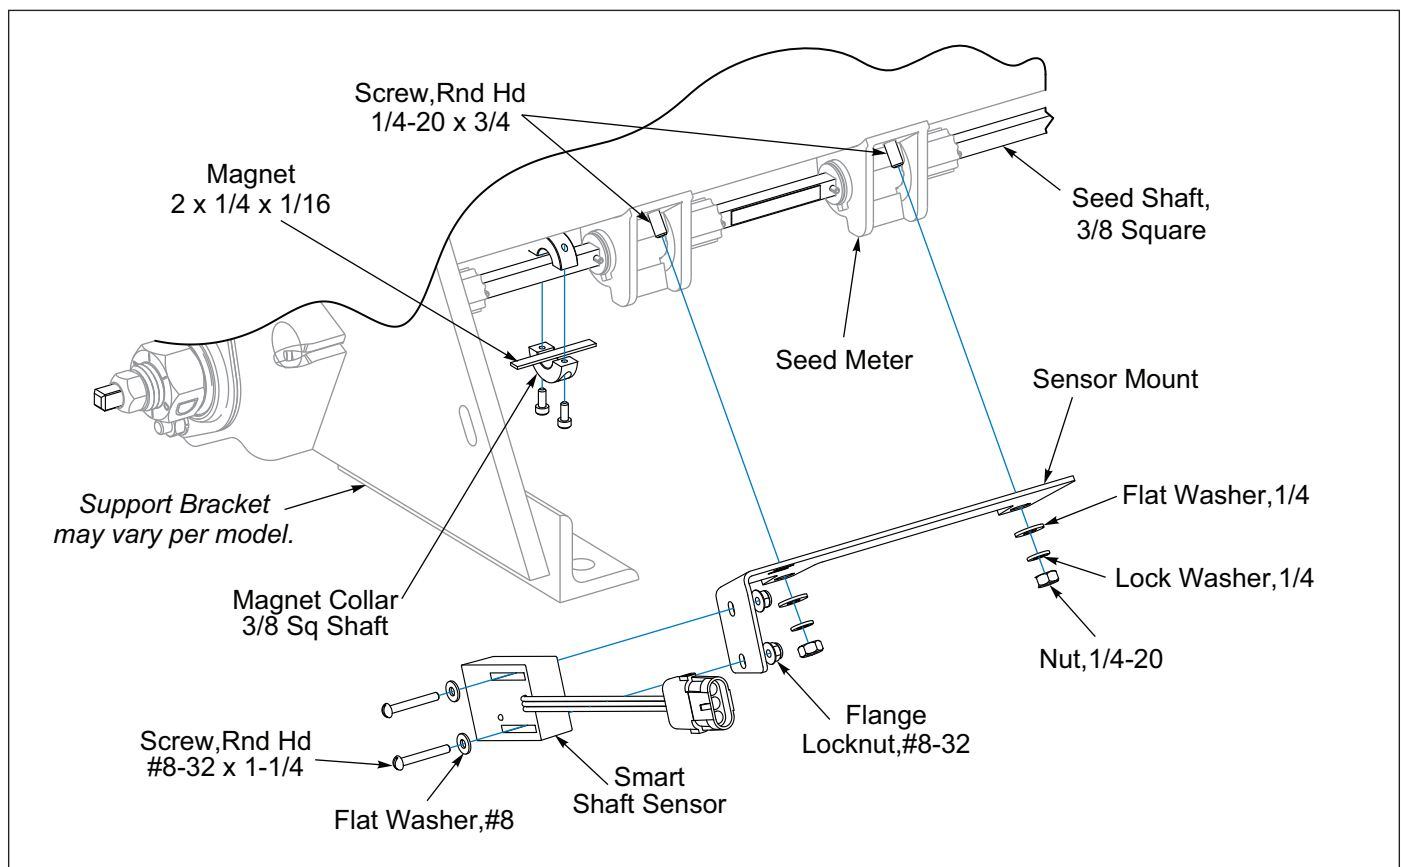

Figure 2-36: Brillion Elite Mini Monitor - Front Seed Box Seed Shaft Sensor
3. Front RH side Seed Box between the 1st and 2nd Seed Meters, place 2 x 1/4 x 1/16 Magnet on the Seed Shaft. Secure with Magnet Collar. See Figure 2-36. Remove the 2nd and 3rd Seed Meter front Round Head Machine Screws that mounts the Seed Meter to the Seed Box and replace them with 1/4-20 x 3/4 Round Head Machine Screws. Install the Sensor Mount on the 1/4-20 x 3/4 Machine Screws. Secure with Flat Washers, Lock Washers and Nuts.